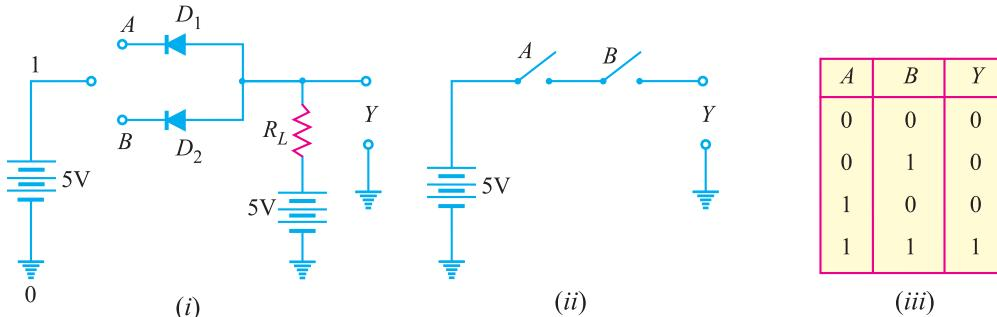

Fig. 26.8
**AND gate operation.** Fig. 26.8 (i) shows one way to build a 2-input AND gate while \*Fig. 26.8 (ii) shows its simplified schematic diagram. There are only four input-output possibilities.
(i) When both  $A$  and  $B$  are connected to ground, both the diodes ( $D_1$  and  $D_2$ ) are forward biased and hence they conduct current. Consequently, the two diodes are grounded and output voltage is zero. In terms of binary, when  $A = 0$  and  $B = 0$ , then  $Y = 0$  as shown in truth table in Fig. 26.8 (iii).
\* Note that two switches used to represent the OR function were connected in parallel. If the switches are connected in series [See Fig. 26.8 (ii)], AND function is obtained. The output is high if both the switches are closed. The output will be low if either switch is open.